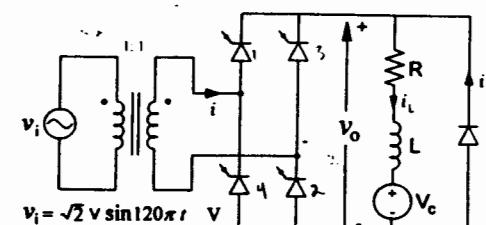

Figure 2: A full-wave controlled rectifier.
2. A single-phase, full-wave, phase-controlled rectifier supplies an inductive load as shown in Figure 2. For $V = 240$ V, $L = 11$ mH, $R = 3 \Omega$, $V_C = 100$ V and $\alpha = 35^\circ$;